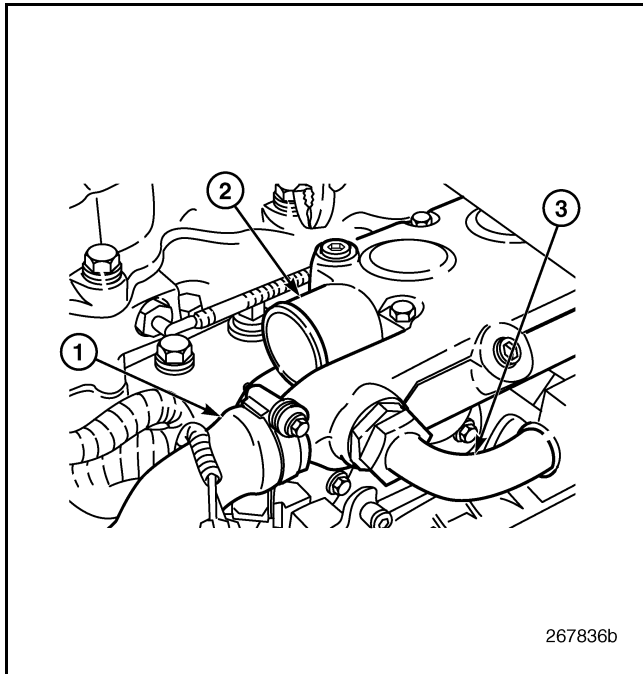

Figure 474 — Thermostat Housing Hose Connections
- Reconnect the bypass and radiator hoses at the front of the thermostat housing (Figure 474) and reconnect the surge tank hose. Tighten all hose clamps to specifications.